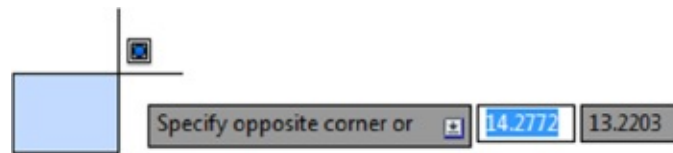

FIGURE 1.13 The Dynamic Input display cursor
2. Place the cursor in the middle of the drawing area and click the left mouse button. Move the cursor and a rectangle follows. This is a *window selection*; you'll learn more about this window in Chapter 2. You also see a coordinate readout following the cursor and the message Specify opposite corner or. This display at the cursor is called the *Dynamic Input display*. You'll learn more about it a little later in this chapter (see Figure 1.13).